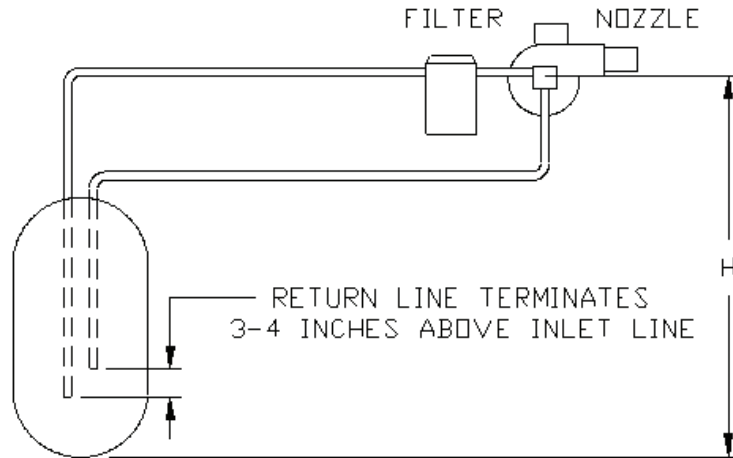

FIGURE 10.4: TWO-PIPE LIFT SYSTEM
- d) TWO-PIPE LIFT SYSTEM - used when a fuel oil storage tank is located below an oil burner fuel pump suction port. See Figure 10.4. The vertical distance from bottom of the tank to center line of the pump (Dimension 'H') must not exceed that shown in the pump manufacturer's instructions. Distance 'H' allowed is reduced by the number of fittings, filters and valves installed in the line.